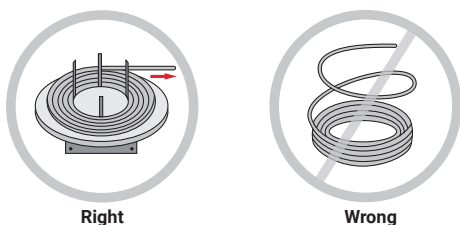

Figure 4: Unreeling/uncoiling cable
- Use a pay-off reel to uncoil heating cable during installation; do not pull cable out into a spiral (Figure 4).